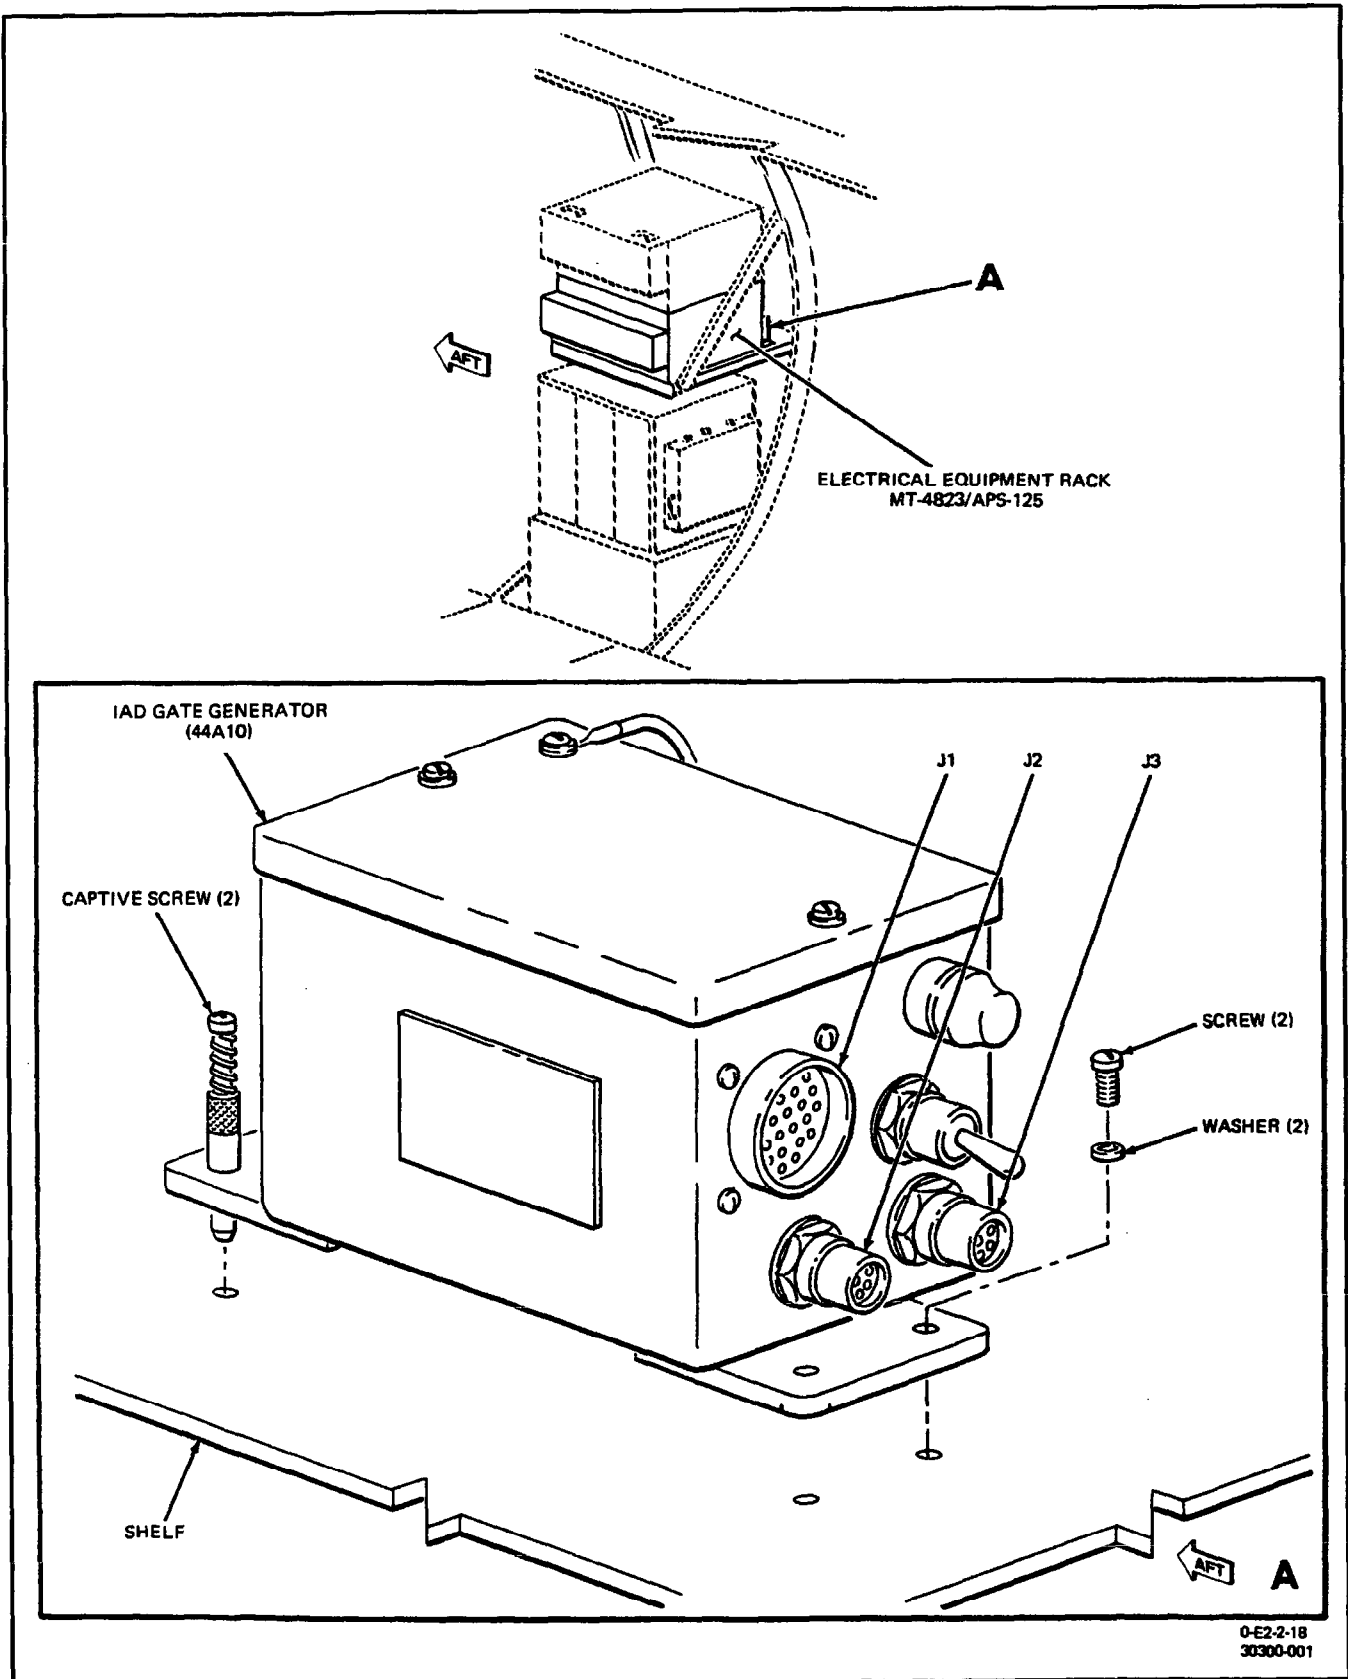

Figure 1. Removal and Installation of IAD Gate Generator
3. REMOVAL. (Figure 1.)
4. **INSTALLATION.** (Figure 1.)